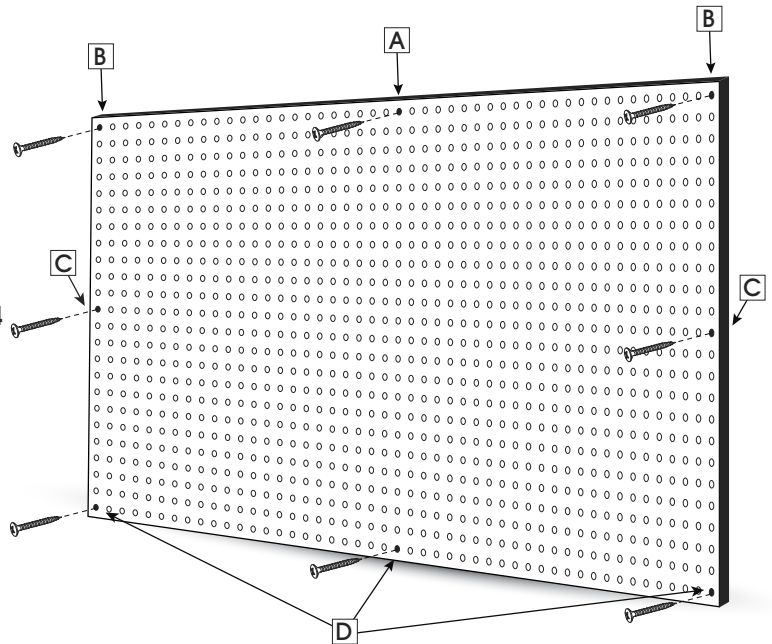

Figure 1
2. With someone holding the pegboard in place, mark holes on wall for hanging. (See Figure 1)
HANGING PEGBOARD (See Figure 1)